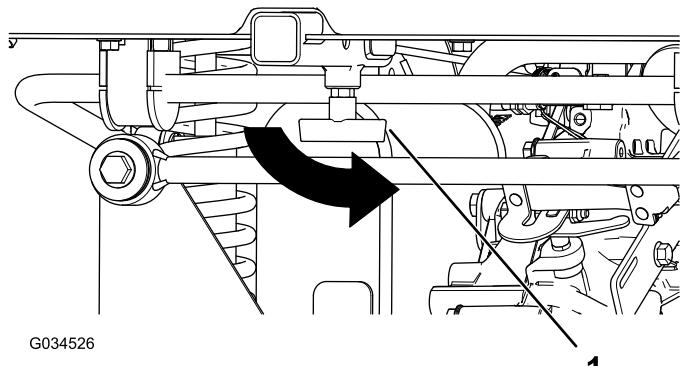

Figure 17
4. Tighten the "T" handle by rotating it counterclockwise (Figure 17).